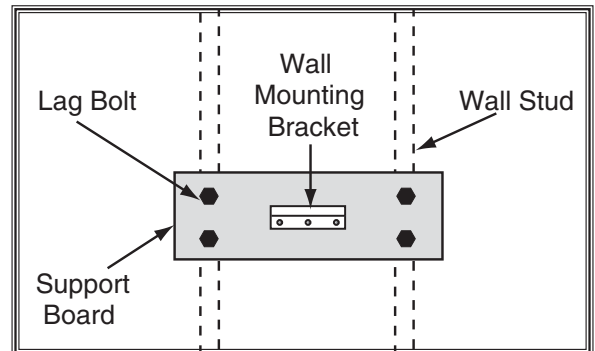

Figure 10. Mounting bracket secured to support board on wall studs.
- If mounting to a wood framed wall (with or without drywall), the bracket must be mounted directly to a support board that is wide enough to span and mount onto two wall studs. Mount the support to the wall studs with lag screws, then mount the bracket to the support with appropriate fasteners, as shown in **Figure 10**.